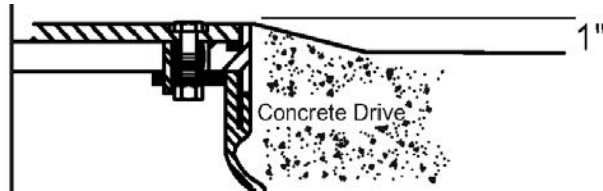

Figure 17: Concrete Slope from Cover
6. To secure the manhole cover, tighten down the (6) cam-locks in a star/crossing pattern.
8. Perform final height adjustment of the manhole cover to elevated grade (approximately 1" above grade for proper run-off as in Figure 17). Make sure backfill supports the assembly so it doesn't move during the concrete pouring.